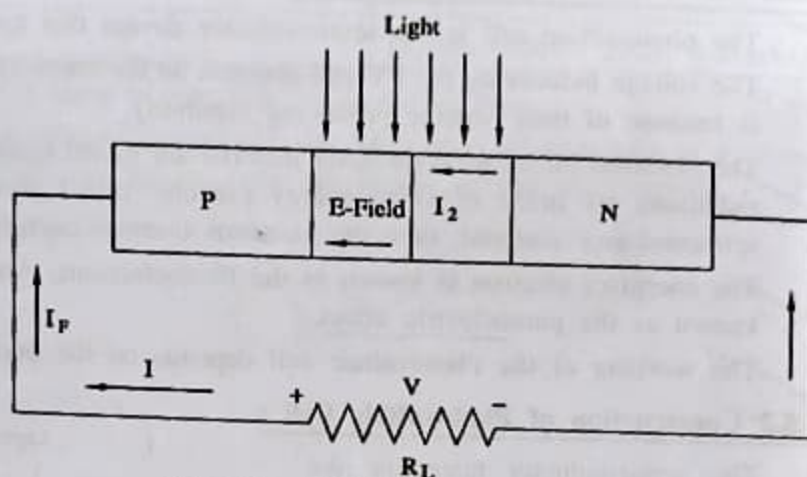

FIG. 3.9 : WORKING OF PV CELL
- Consider the figure 3.9 above shows the PV cell made of silicon and the resistive load is connected across it.